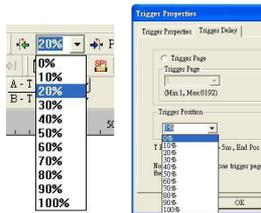

Fig 3-12 – Trigger Position Drop down menu
Step 5. Type the percentages or select the percentages from the pull down menu of the  **20%**  on the Tool Bar or Click the pull down menu of the Trigger Position on the “Trigger Delay” page of the Trigger Properties dialogue as shown in Figs 3-12, 3-13, 3-14, and 3-15, The Trigger Position percentages selected will be displayed where counted from the right side of the screen of the system.